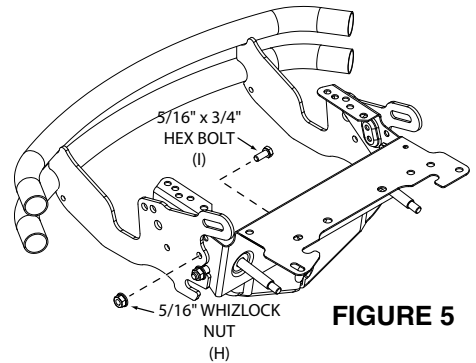

FIGURE 5
Step 5: (Fig. 5)
1. Assemble a 5/16 x 3/4" hex bolt (I) and 5/16" whizlock nut (H) to the tractor and bumper. Tighten.